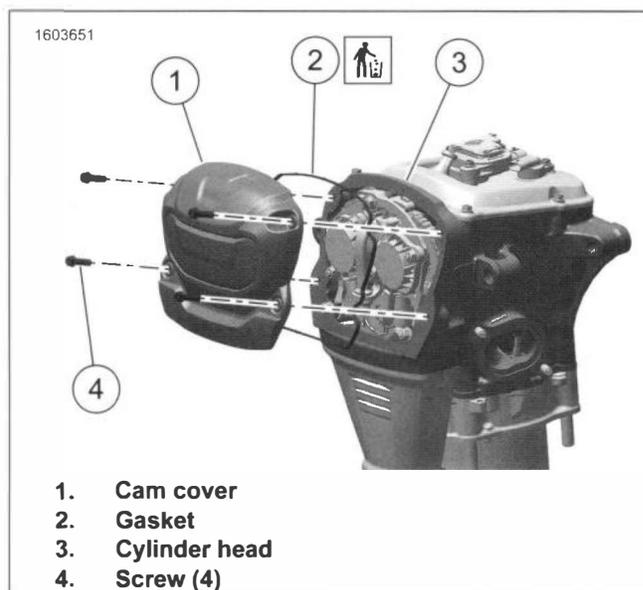

Figure 4-19. Cylinder Head Cam Cover
1. See Figure 4-19. Remove screws (4).
2. Remove camshaft cover (1).
3. Remove and discard gasket (2).
1. See Figure 4-19. Clean groove in camshaft cover (3) from all residual oil and debris.
2. Install **new** gasket (2) to camshaft cover (1).
3. Install camshaft cover (1).
4. Install screws (4). Tighten.